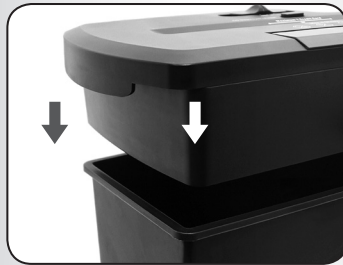

FIGURE 1
1. Mount the shredder securely to the rim of the waste basket. (FIGURE 1, basket not included)